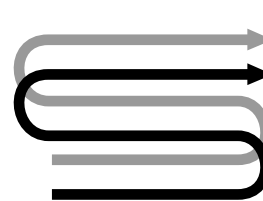
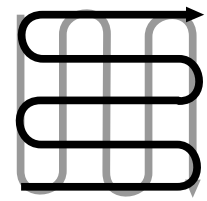

Fig. 4-5
Fig. 4-6
- When preparing a seedbed, go over the same path twice in the first row, then overlap one-half the tiller width on the rest of the passes (see Fig. 4-5). When finished in one direction, make a second pass at a right angle, as shown in Fig. 4-6. Overlap each pass for best results (in very hard ground, it may take three or four passes to thoroughly pulverize the soil.)